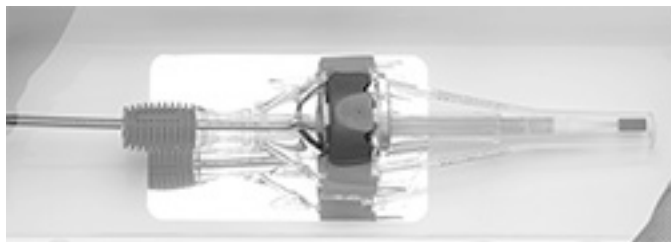

Figure 25
18. Advance the capsule over the bioprosthesis until the capsule comes within 5 mm of the catheter tip (Figure 25).